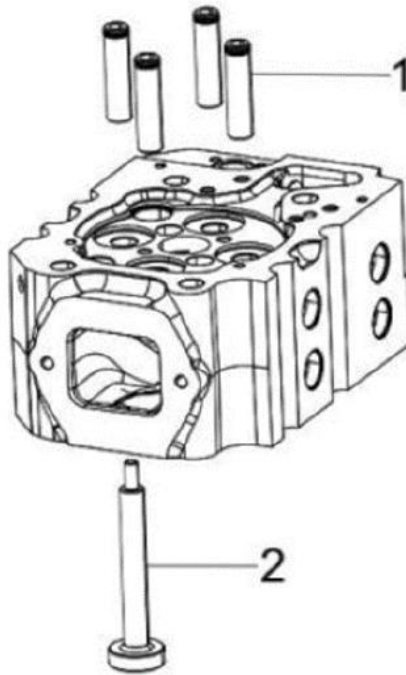

Figure 49. Cylinder Head Valve Guides
16. If the valve guides are not within specifications, use a hydraulic press to drive the valve guides (Figure 49, Item 1) out of the cylinder head.